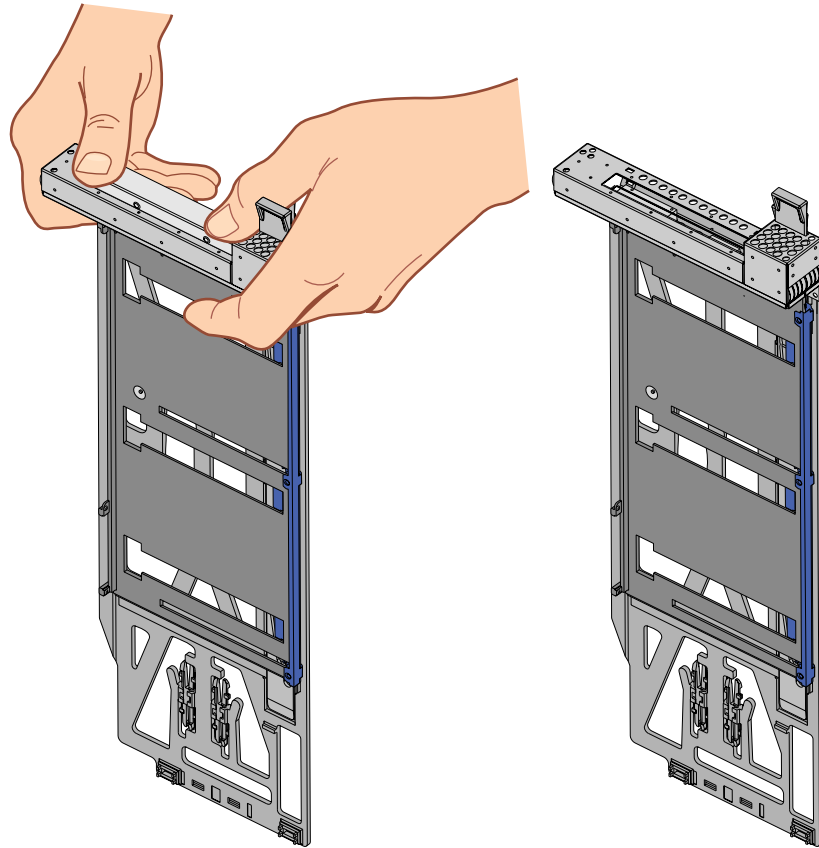

Figure 6-18 Extracting the Carrier Metal Filler Plate
4. If you are adding a card, extract the carrier metal filler plate by pushing down on it, as shown in Figure 6-18. This filler plate covers the area where your card connectors will protrude out to the rear panel of the blade.